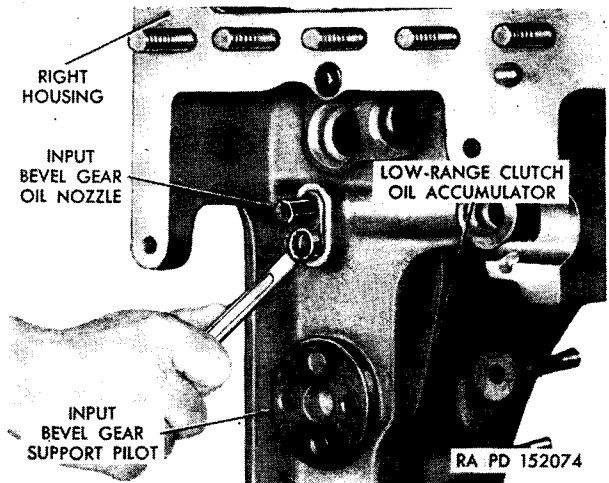
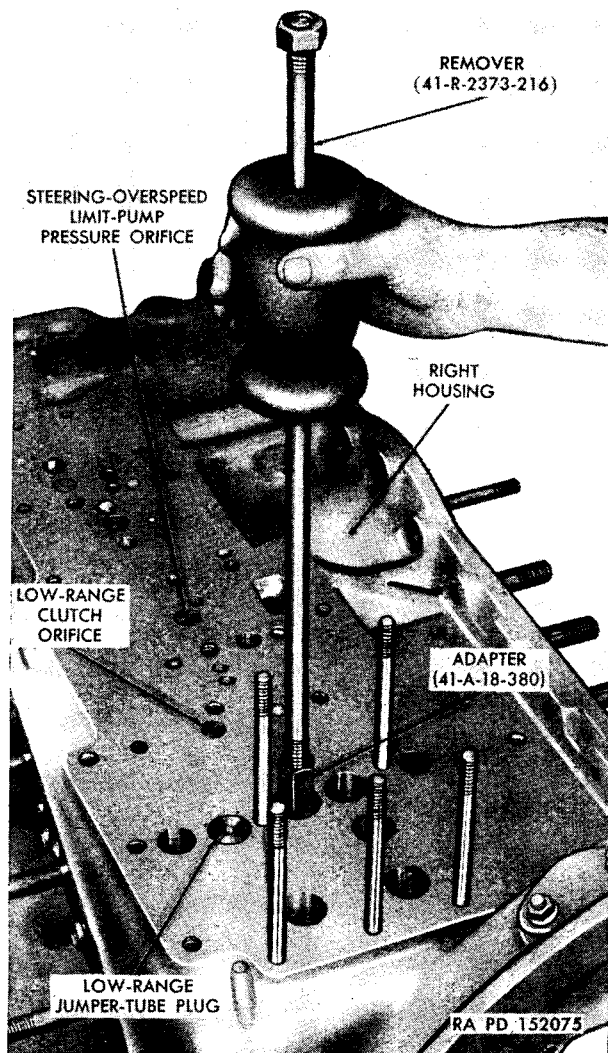
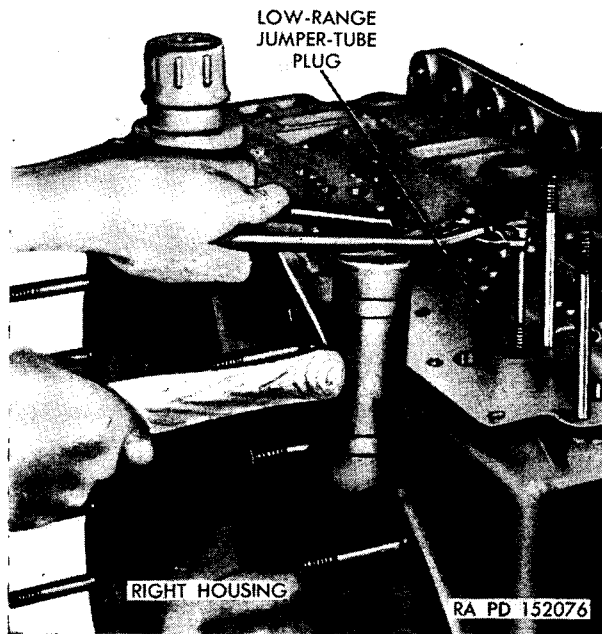
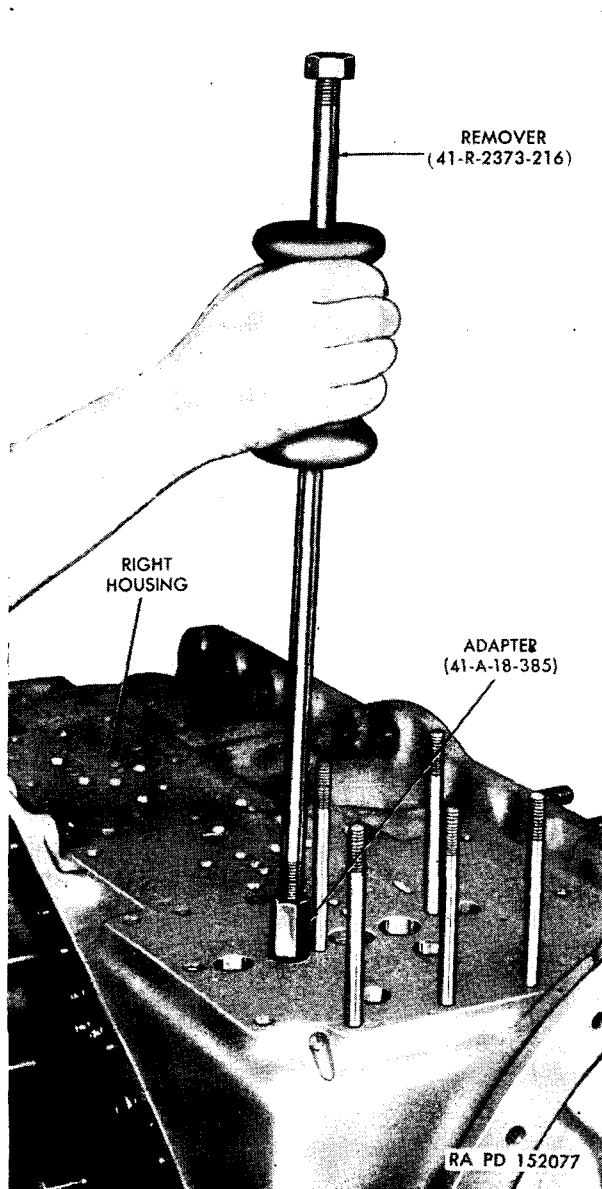

Figure 335. Removing or installing input-bevel-gear oil nozzle.
Figure 336. Removing main pressure relief valve.
Figure 337. Removing low-range jumper tube plug.
Figure 338. Removing low-range jumper tube.
- c. Using a $\frac{1}{2}$ -inch wrench, remove the bolt from the input-bevel-gear oil nozzle (fig. 335). Remove the nozzle from the housing. Using the adapter (41-A-18-380) and remover (41-R-2373-216), remove the main-pressure relief valve (fig. 336). Remove the low-range-jumper-tube plug from the housing using a bolt, pliers and a hammer (fig. 337). Using the adapter (41-A-18-385) and remover (41-R-2373-216), pull the jumper tube out of the housing (fig. 338).
- (1) Check to see that the low-range-clutch orifice and steering-overspeed-limit-pump-pressure orifice are free of obstructions (fig. 336).
housing, seating the tube by tapping on the adapter with a soft hammer. Install the plug over the low range accumulator jumper tube using a soft drift and hammer. Secure the plug by staking. Install the input-bevel-gear oil nozzle, securing it to the housing with one $\frac{5}{16}$ -inch bolt (fig. 335). Torque the bolt to 17 to 20 pound-feet.